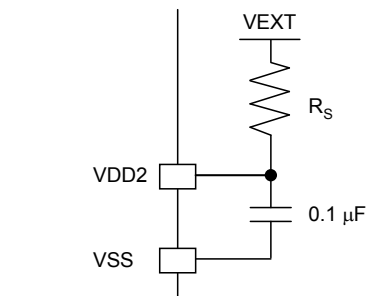

Fig. 1
- When the external supply voltage  $V_{EXT} = 4.5\text{ V}$  to  $5.5\text{ V}$ , connect a 5.1-k $\Omega$  resistor  $R_S$  between  $V_{EXT}$  and  $V_{DD2}$  as shown in Fig. 1.